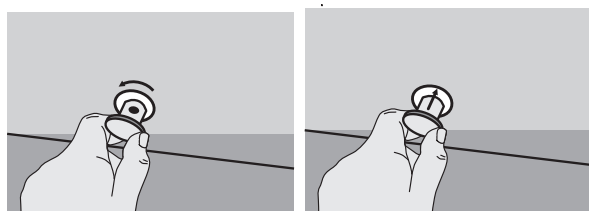

Figure 3
9. Rotate the external water drain until the water hole points up and push it back into place (Figure 3).